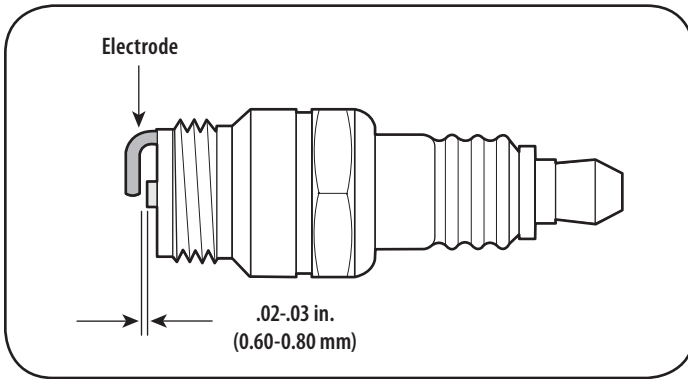

Figure 56
3. Measure the plug gap with a feeler gauge. Correct as necessary by bending side electrode. See Figure 56. The gap should be set to .02-.03 inches (0.60-0.80 mm).